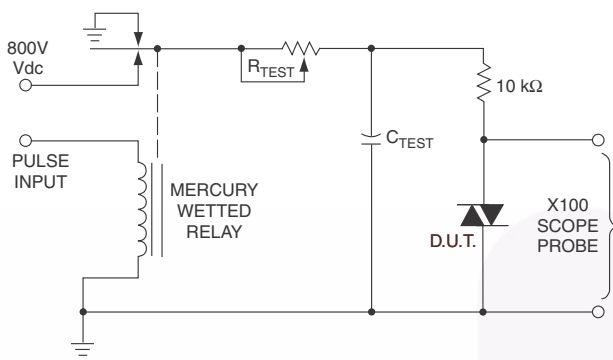

Figure 11. Static dv/dt Test Circuit
| $dv/dt$           | Critical Rate of Rise of Off-State Voltage | $I_F = 0$ (Figure 11) (2)              | 600  | 1500  |      | $\text{V}/\mu\text{s}$ |
- This is static  $dv/dt$ . See Figure 11 for test circuit. Commutating  $dv/dt$  is a function of the load-driving thyristor(s) only.